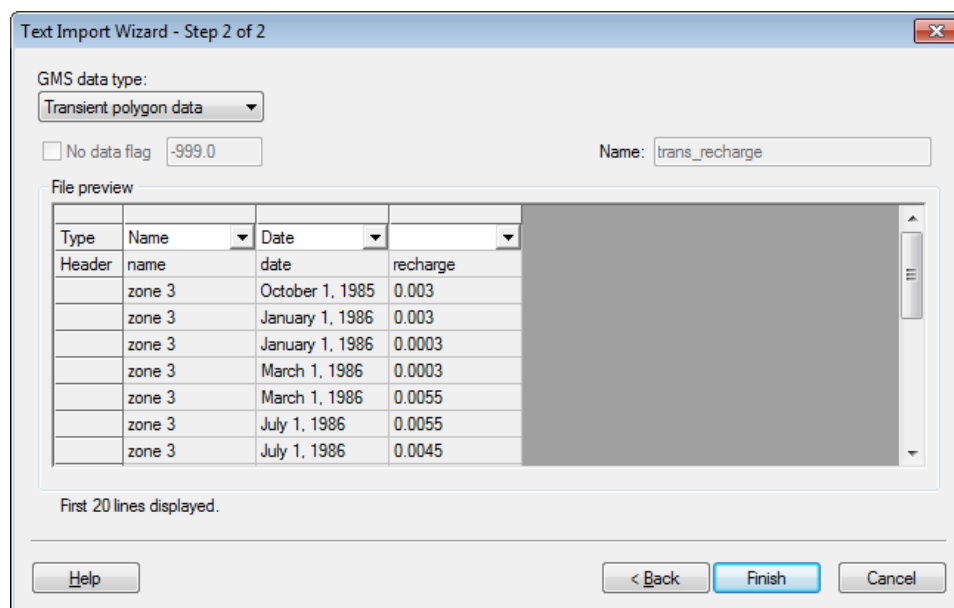

Figure 5 Step 2 of 2 page of the Text Import Wizard dialog
5. Below the *File import options* section, turn on *Heading row* and click the **Next** button to go to the *Step 2 of 2* page of the *Text Import Wizard* dialog (Figure 5).